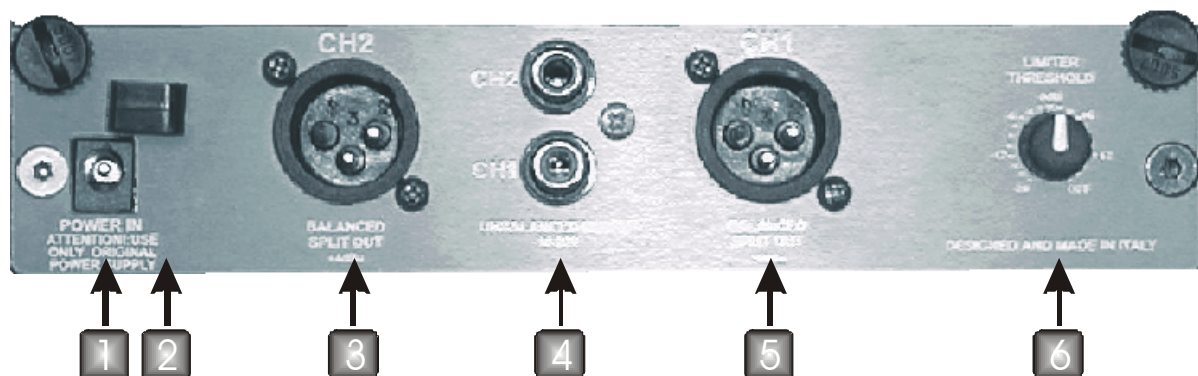

Fig. 4.2 Back panel connections
Fig. 4.2 Back panel connections	p. 10
- 11) LIMIT LED shows that the Limiter of the CH1 is working, this means that the input signal is over passing the set Threshold (see Fig. 4.2)
- 14) LIMIT LED shows that the Limiter of the CH2 is working, this means that the input signal is over passing the set Threshold (see Fig. 4.2)